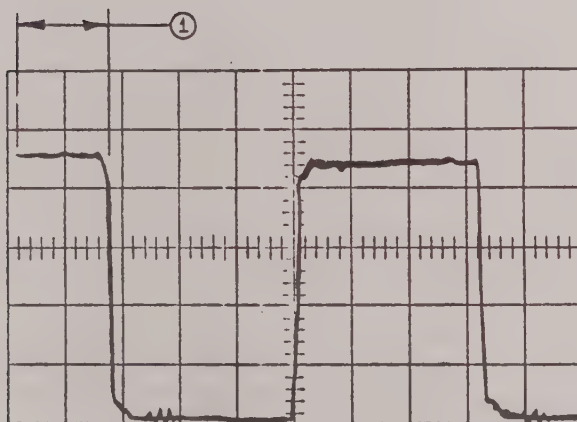

Figure 14: Transmit Bit Sync
- o. Adjust the Oscilloscope's triggering controls to obtain the waveform of Figure 14. When properly triggered, the Oscilloscope should exhibit a slight delay (not more than 2/3 second) between release of its Erase & Reset button and the actual sweep. Measurement (1) should be between 1 and 3 cm (100 and 300 ns) from the beginning of the trace.